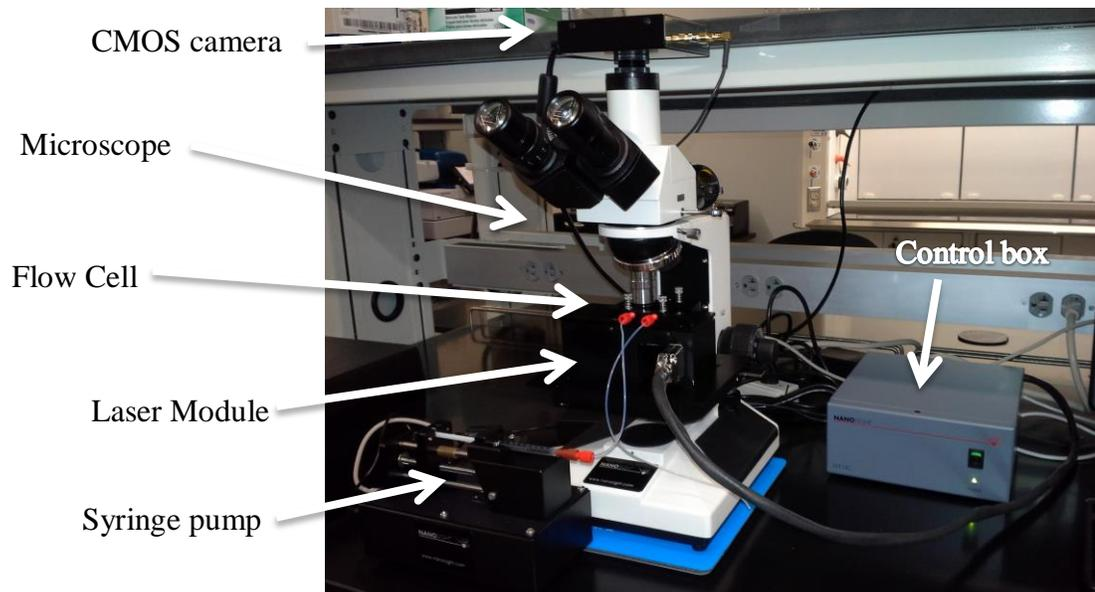

Figure 1. The NanoSight tool.
- 2. Tool Components.** Figure 1 shows a front view of the NanoSight. Key components visible in this view are